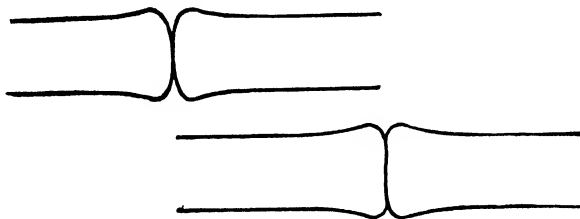

FIG. 41
13. If a butt weld is to be made, heat and upset the stock on the ends thruout the length that will become red during the process of welding and until they are about one and one-half times their original diameter. Hammer the surfaces until they are round or convex, Fig. 41, with the center considerably higher than the edges. While at a red heat sprinkle a small amount of flux on the ends and place the stock in the fire, on a thick bed of live coals. Cover the ends with live coals and raise the temperature slowly, meanwhile turning the pieces of stock. Remove the stock occasionally to see if the ends are of uniform temperature. When the stock becomes